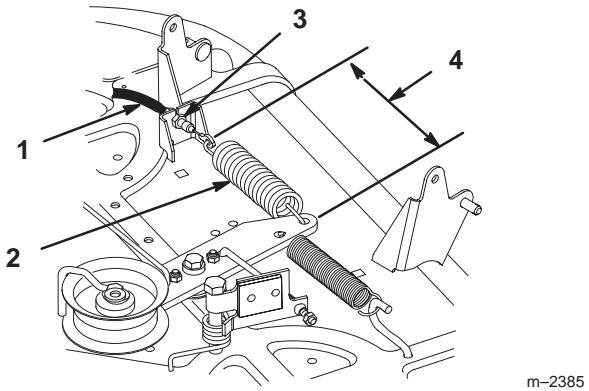

Figure 46
12. Engage the PTO lever on the dash. Measure the distance between the hook ends of the idler spring (Fig. 46). Adjust the jam nuts until a 6 in. (150 mm) dimension is obtained (Fig. 46).